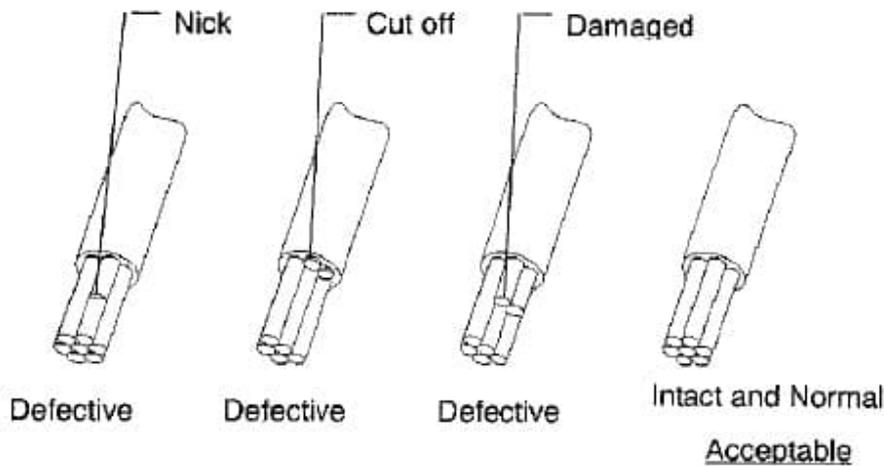

Fig. 3
4.1.1 Applicable Wire. See Fig.3 for applicable wire.